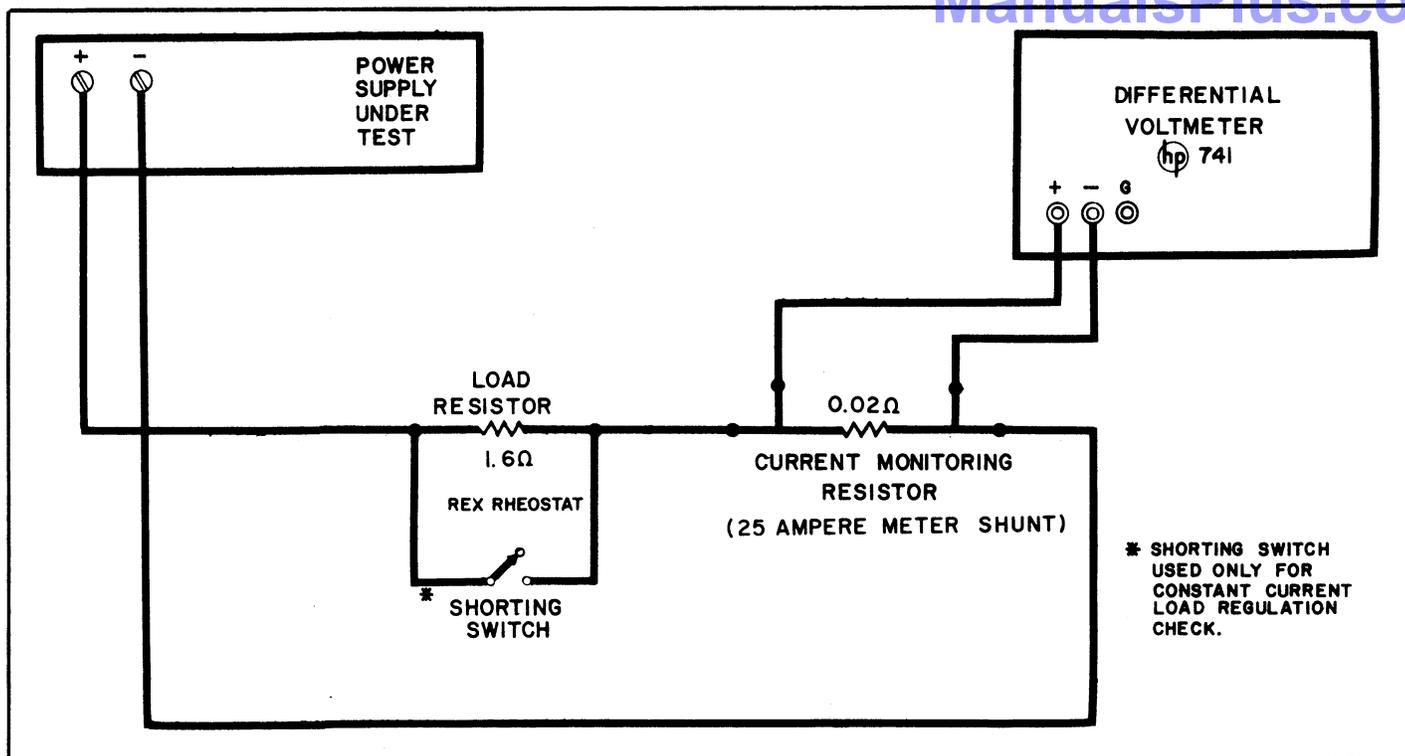

Figure 5-3. Constant Current, Test Setup
- Connect test setup shown in Figure 5-3.
- a. Connect test setup shown in Figure 5-3.